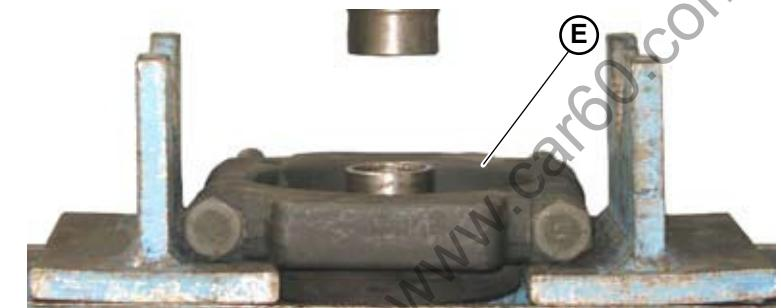

Fig.7
3. Using an appropriate tool (E-Fig.7) exercise enough pressure to remove the remaining residues of the wheel bearing.